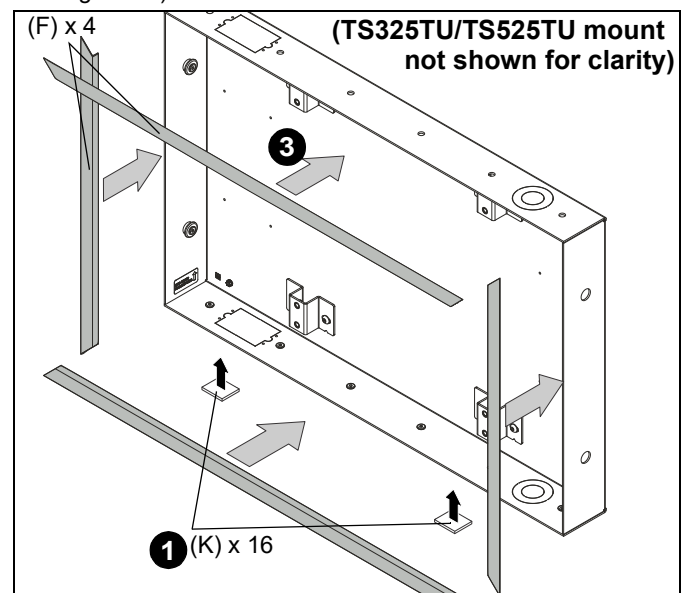

Figure 14
- Remove paper covering adhesive and affix three tape squares (K) to inside lower flange of each trim piece (G). (See Figure 14)
- Orient trim pieces (G). (See Figure 14)
- Remove paper covering adhesive back from tape squares (K) on trim and press trim (F) against inner wall of box. (See Figure 14)